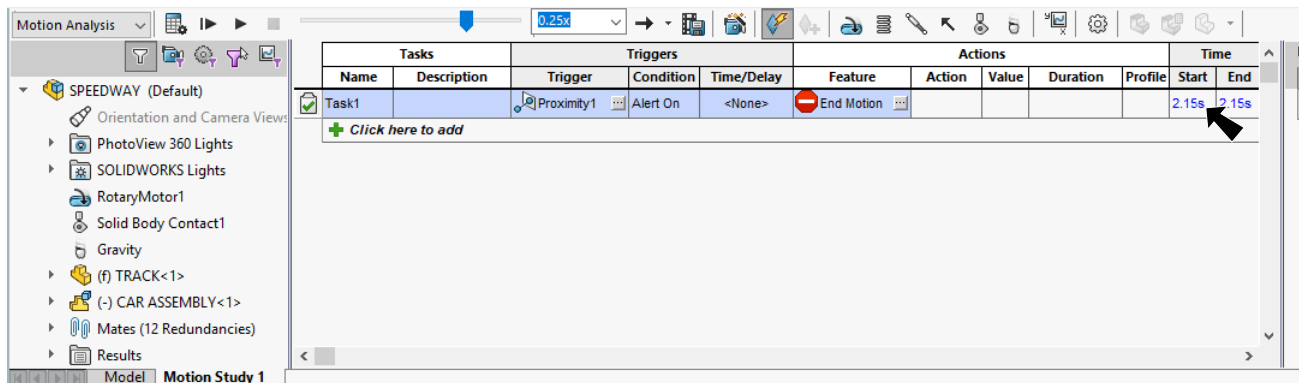

Fig. 23
Step 10. Out best time was **2.15**, **Fig. 23**.